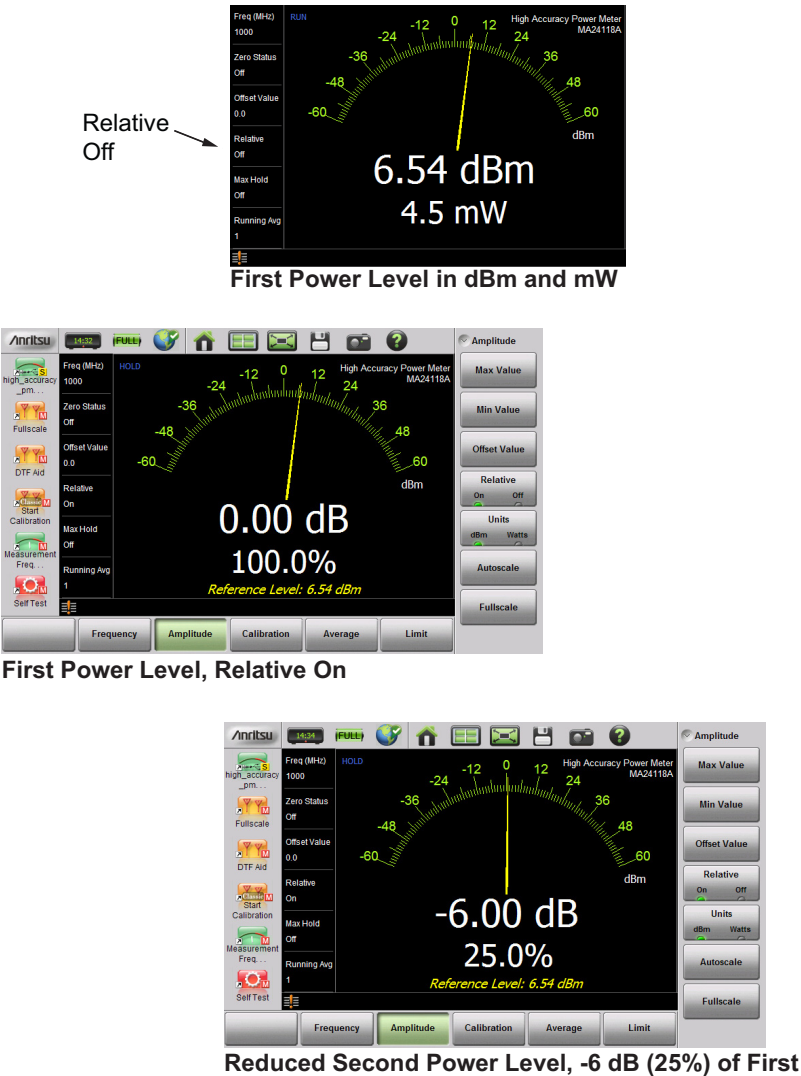

Figure 6-4. Relative Power Example
2. Press the **Relative** submenu key. Note that the absolute value of the measurement at the time the **Relative** key is pressed is shown in yellow below the numerical display (see Figure 6-4 on page 6-7).
3. Any change in power will now be displayed relative to the set reference level. Refer to the bottom image in Figure 6-4 on page 6-7.